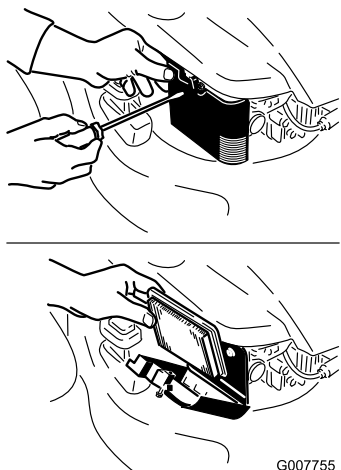

Figure 23
2. Open the air filter cover and remove the old air filter (Figure 23).